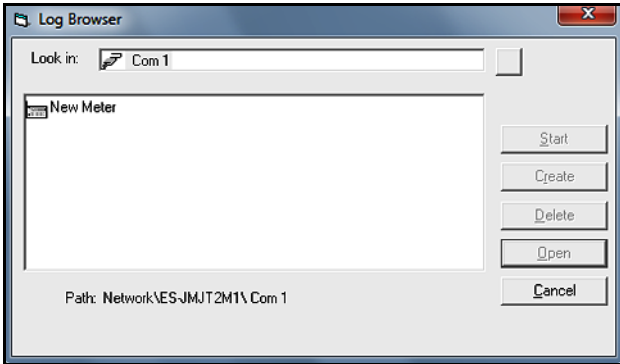

Figure 64: Meter Selection
- b. Double click on the *communication port name* to move to the network level shown in *Figure 64* below.